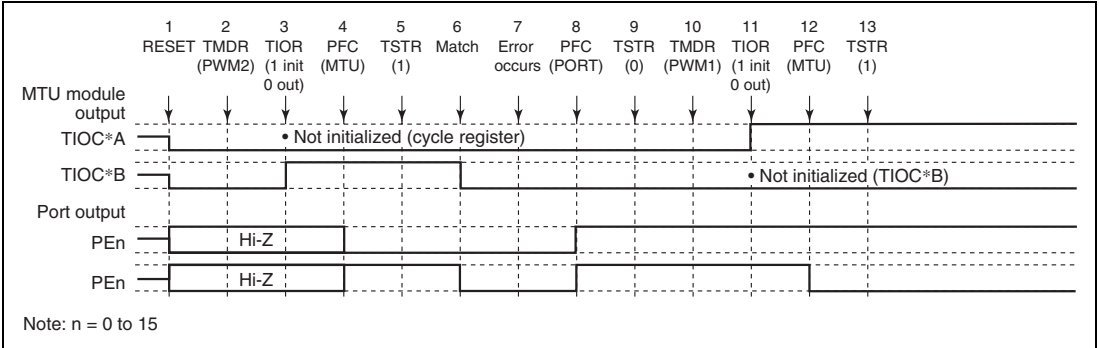

Figure 8.97 Error Occurrence in PWM Mode 2, Recovery in PWM Mode 1
(14) Operation when Error Occurs during PWM Mode 2 Operation, and Operation is Restarted in PWM Mode 1: Figure 8.97 shows an explanatory diagram of the case where an error occurs in PWM mode 2 and operation is restarted in PWM mode 1 after re-setting.